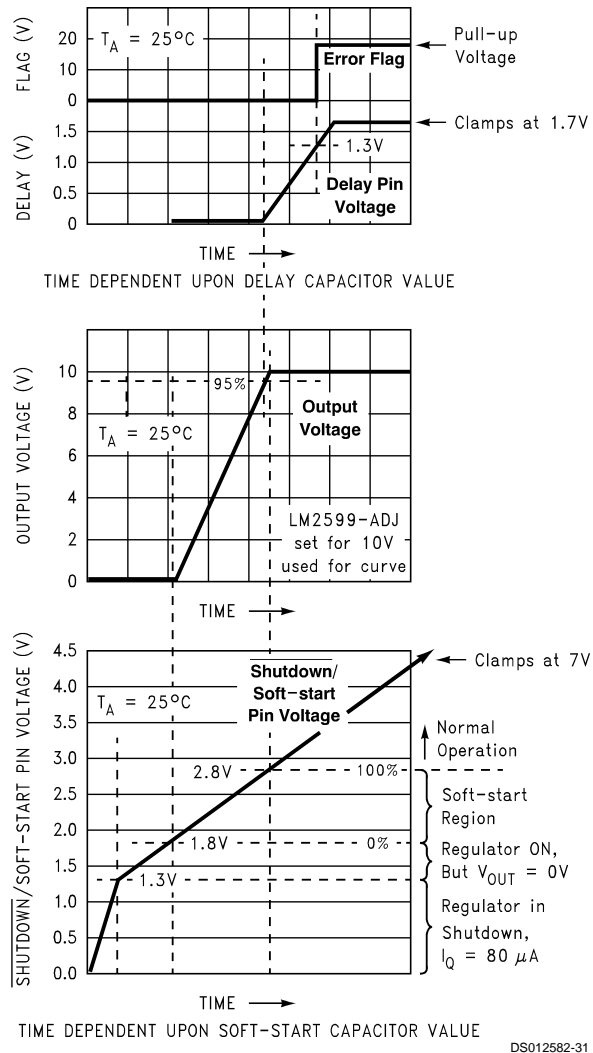
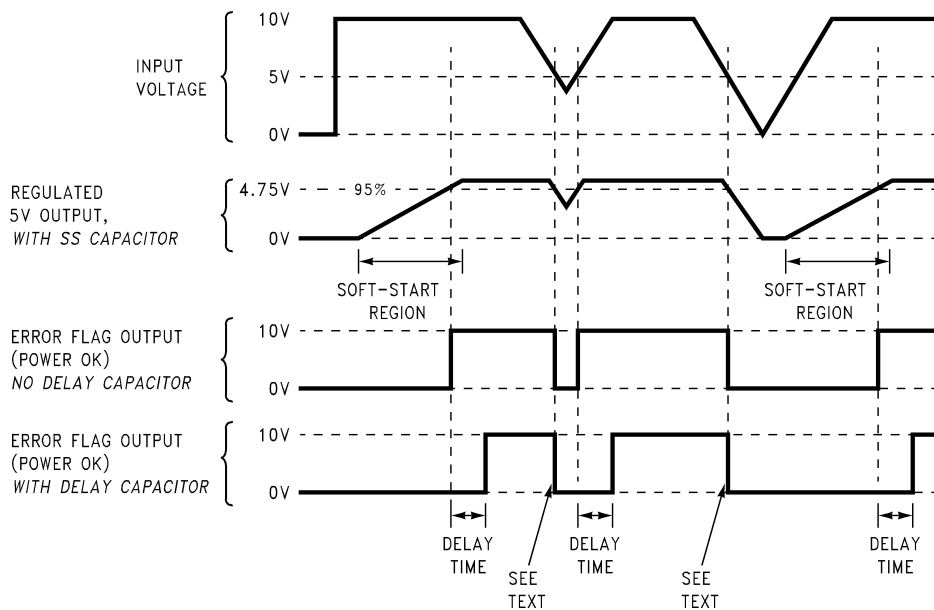

FIGURE 13. Soft-start, Delay, Error, Output
FIGURE 14. Timing Diagram for 5V Output
C_{SS} — A capacitor on this pin provides the regulator with a Soft-start feature (slow start-up). When the DC input voltage is first applied to the regulator, or when the Shutdown /Soft-start pin is allowed to go high, a constant current (approximately $5 \mu A$) begins charging this capacitor). As the capacitor voltage rises, the regulator goes through four operating regions (See the bottom curve in Figure 13).
3. Soft-start Region. When the \overline{SD}/SS pin voltage is between 1.8V and 2.8V (@ 25°C), the regulator is in a Soft-start condition. The switch (Pin 2) duty cycle initially starts out very low, with narrow pulses and gradually get wider as the capacitor \overline{SD}/SS pin ramps up towards 2.8V. As the duty cycle increases, the output voltage also increases at a controlled ramp up. See the center curve in Figure 13. The input supply current requirement also starts out at a low level for
Note: The lower curve shown in Figure 13 shows the Soft-start region from 0% to 100%. This is not the duty cycle percentage, but the output voltage percentage. Also, the Soft-start voltage range has a negative temperature coefficient associated with it. See the Soft-start curve in the electrical characteristics section.
C_{DELAY} — Provides delay for the error flag output. See the upper curve in *Figure 13*, and also refer to timing diagrams in *Figure 14*. A capacitor on this pin provides a time delay between the time the regulated output voltage (when it is increasing in value) reaches 95% of the nominal output voltage, and the time the error flag output goes high. A 3 μA constant current from the delay pin charges the delay capacitor resulting in a voltage ramp. When this voltage reaches a threshold of approximately 1.3V, the open collector error flag output (or power OK) goes high. This signal can be used to indicate that the regulated output has reached the correct voltage and has stabilized.